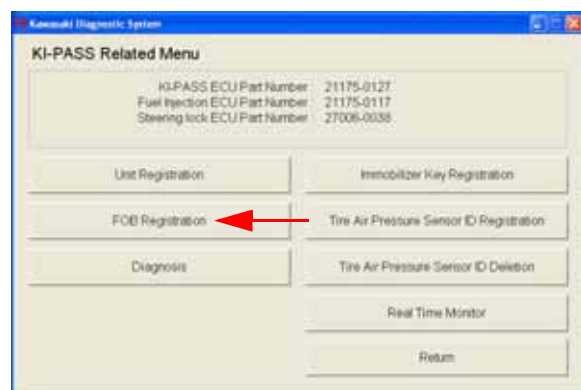

Fig. 5-28 KI-PASS Related Menu Screen
- o Select **Fob Registration** on the KI-PASS Related Menu (Fig. 5-28).